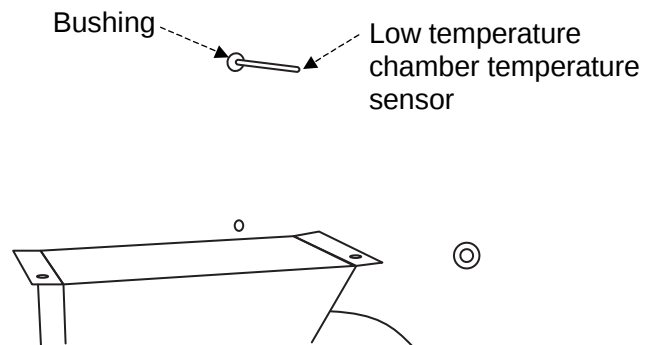

Fig. 5.32 Low temperature chamber temperature sensor
7. Connect a new sensor to the temperature controller, wind the lead around the duct twice as before and lock down with tie-wraps as shown in Fig. 5.32.